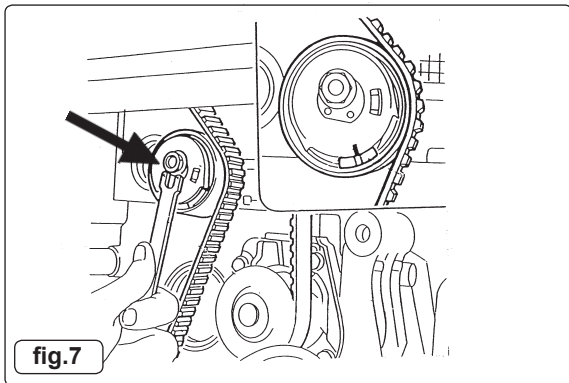

fig.7
- 3.2.14 Fit VS1400/03 Tensioner Adjuster to the tensioner (fig.7) and maintain its position whilst slackening the tensioner nut. Allow the automatic tensioner to achieve a position **where the front fork is aligned with the rear fork**. Tighten tensioner nut to specified torque – 25Nm.